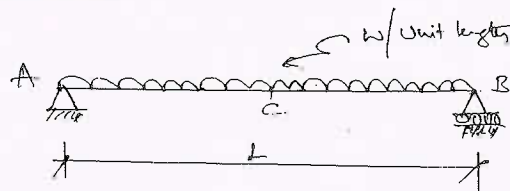

Fig.Q5(b)
b. Determine the deflection at the center of the loaded simply supported beam as shown in Fig.Q5(b) by Castiglione's theorem.